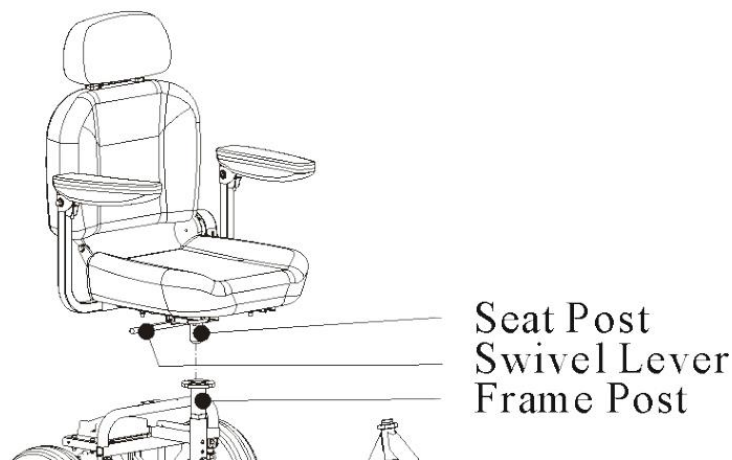

Figure 7.2
7.8.1 Lift the swivel lever all the way up. (see Figure 7.2)